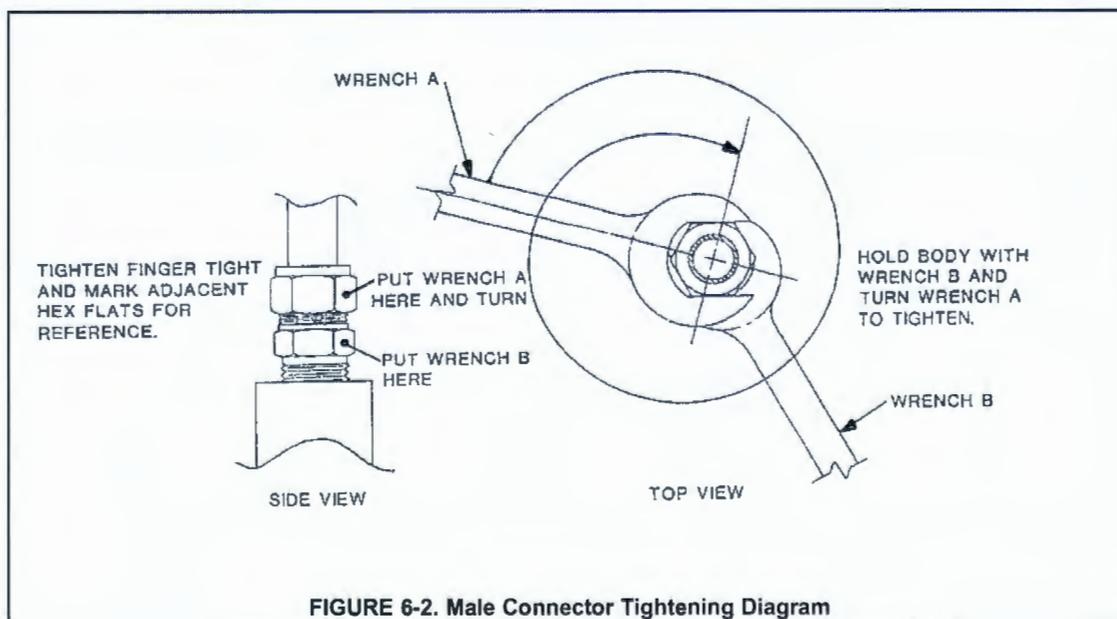

FIGURE 6-2. Male Connector Tightening Diagram
11. Open ball valve and position the sensor at the desired insertion depth and orientation. Using a crescent or open end wrench, tighten the hex nut (B) to secure the sensor in place. See Figure 6-2.